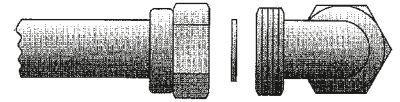

Figure 1
**Caution: If your Boretti is connected to mains gas using a fixed (copper) line, you must always use a fiber gasket (Figure 1).**